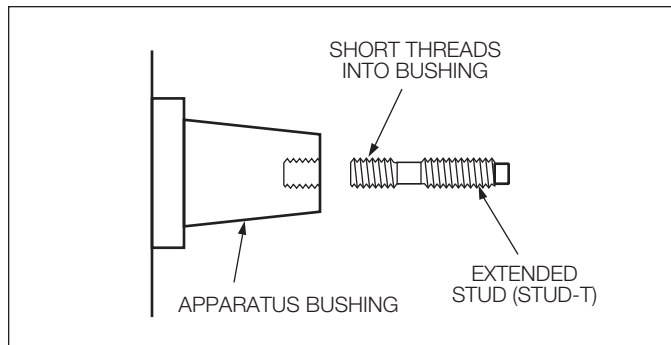

Figure 2.
- Thread the shorter threaded end of the extended stud into the apparatus bushing until hand tight. (Refer to Figure 2).